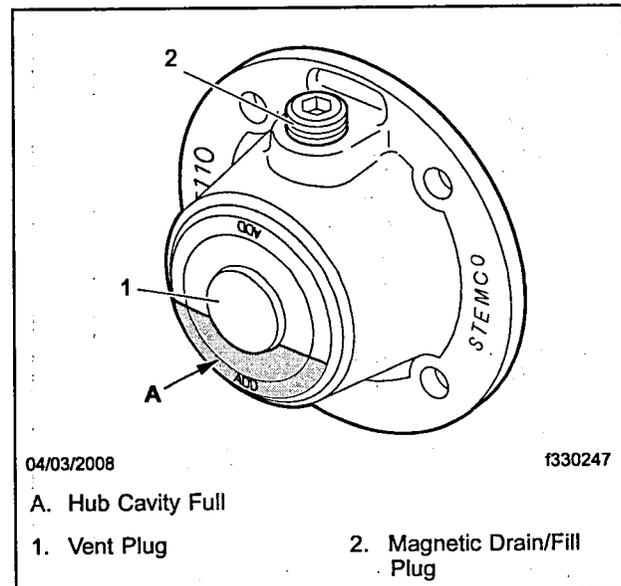

Fig. 12, Stemco Hub Cap
- 12.3 Add enough oil (about 2 oz or 60 mL) to the hub to bring the level up to the bottom of the vent cap. See Fig. 12.
- 12.5 Once the oil level has stabilized in the hub cap, check the level in the window and, if needed, add enough oil to bring the level up to the bottom of the vent plug. See Fig. 12.